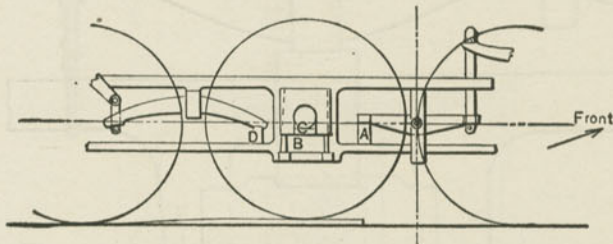

Fig. 386. Broken Driver Box.
*Q. Suppose in a ten-wheeler with such a mixed spring arrangement as is shown in Fig. 386 the main driver box breaks on both sides and the brass comes down into the cellar, what is to be done?*